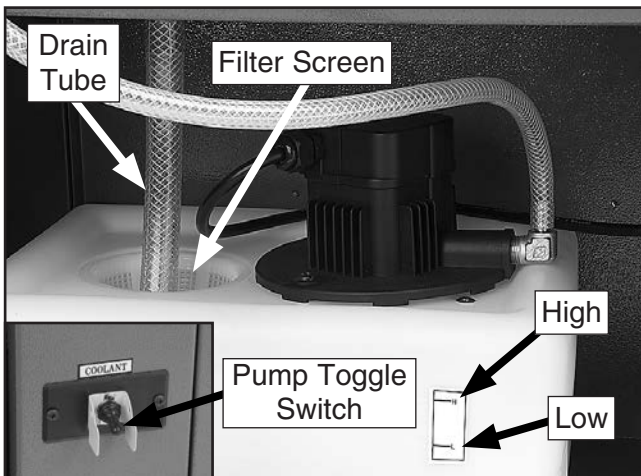

Figure 38. Identification of coolant components.
2. Place filter screen and drain tube in reservoir, as shown in **Figure 38**.